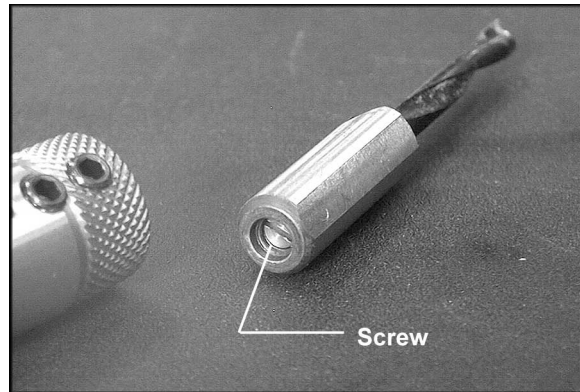

Figure 7
Boring bits (not included) are to be installed in the chucks, which are in turn mounted to the spindles of the machine. The chucks accept boring bits with 10mm shanks. These boring bits will have a screw inside the shank (see Figure 7). This style of boring bit is available from the dealers listed on page 28. It can also be found at many woodworking supply stores.
9. Use a flat head screwdriver to turn the screw at the end of the bit shank (Figure 7) in or out until the bit will protrude the correct distance from the chuck.